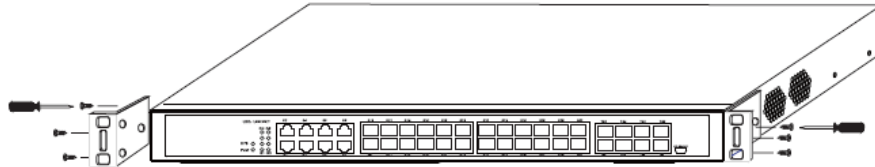

Figure 3-1 Fixing the machine box of the switch
The machine box of the switch is fixed on the cabinet through the brackets. When you fix the brackets, the front template of the switch faces forward. The detailed operations are shown in Figure 3-1.
**Caution:** The switch shown in figure 3-1 does not represent the material S3740F.